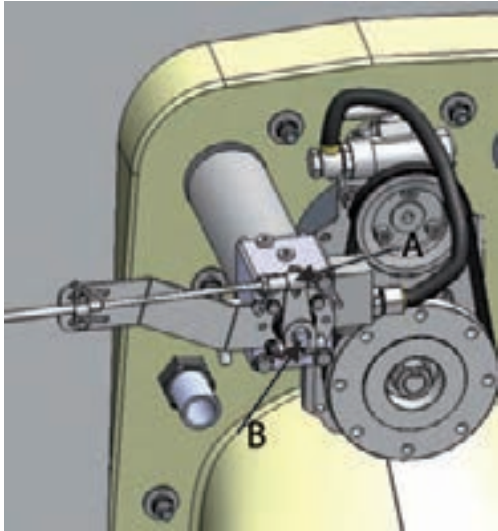

Figure 48. Removing the control cable
1. Detach the control cable from the end of the cylinder operating lever (figure 48, point A).
2. Loosen the operating lever screw (figure 48, point B) but do not pull the lever off the shaft yet.
7. Attach the control cable to the screw at the end of the operating lever (figure 48, point A).